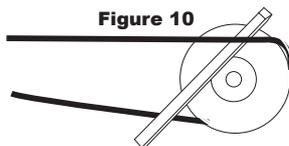

Figure 10
- 4. Always loosen tension enough to instal belts without stretching. Do not force belt(s) see Figure 10. Forcing belts will break the cords and cause belt failure.